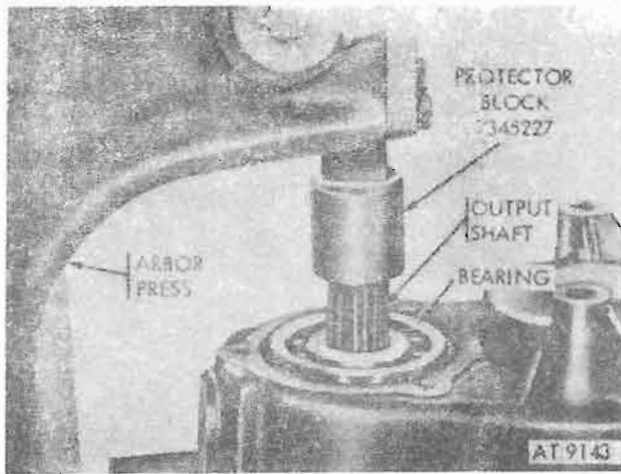

Figure 8-10. Pressing output shaft and gear from rear bearing.
k. Using arbor press and protective block (7345227) press output shaft and gear from rear bearing (fig. 8-10). Remove output gear and shaft assembly from transfer case.